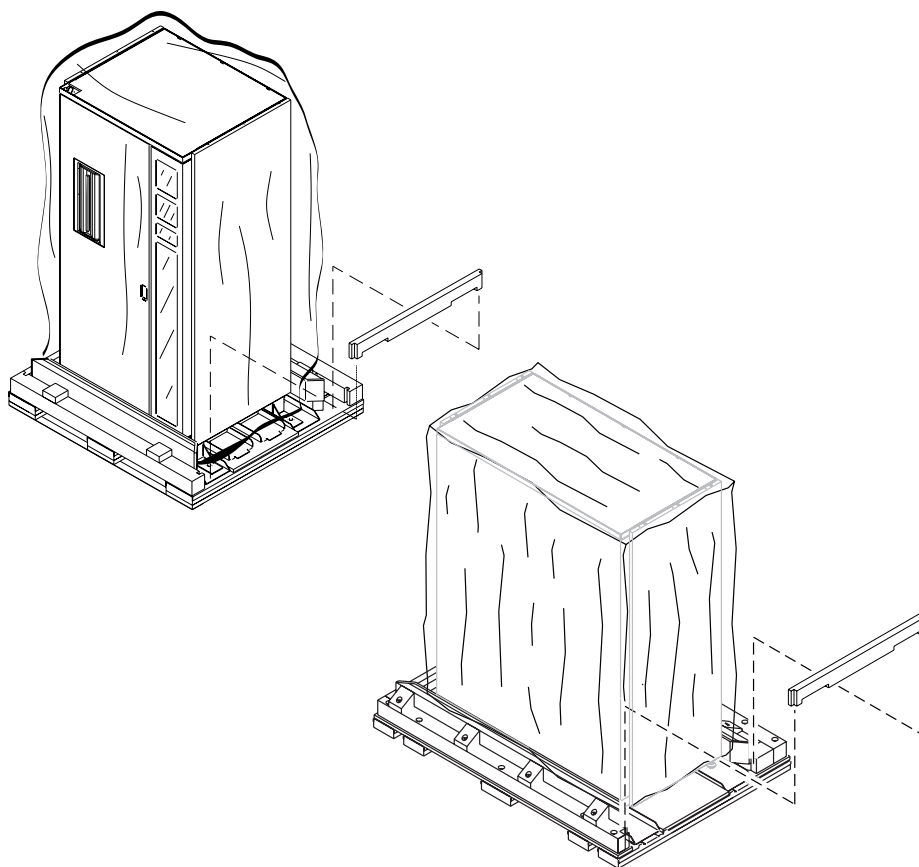

Figure 4-6. Removing the wooden bar
10. On the left side of the library, lift the wooden bar out of its brackets on the pallet (see Figure 4-6).
13. Reinsert the left wooden bar in its brackets on the pallet to hold the library in place (see Figure 4-6).